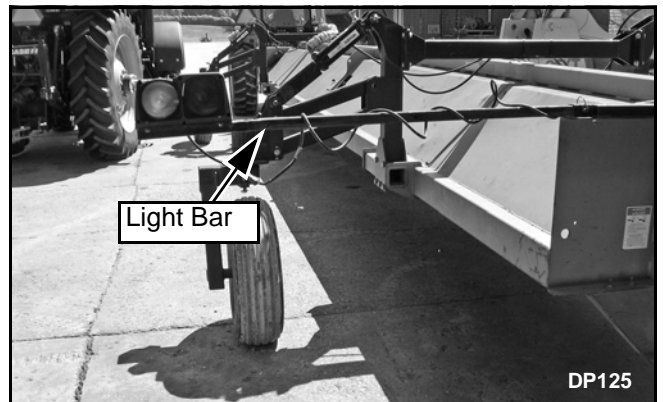

Figure 23. Light Bar
5. Slide light bar out to match width of shredder and pin in position. Attach light harness to tractor. (See Figure 23).